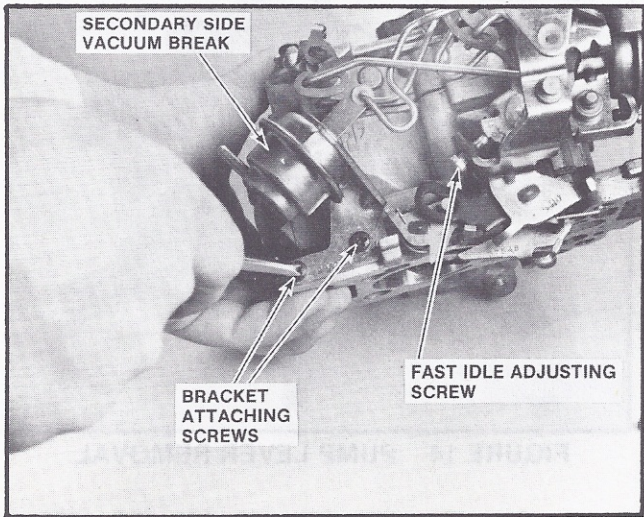

FIGURE 16 VACUUM BREAK REMOVAL - V6
break diaphragm plunger and remove bracket assembly from float bowl. On V6 and L-6 models, rotate vacuum break and bracket assembly to disengage rods from vacuum break and air valve levers. It is not necessary to remove the vacuum break or air valve rods from the vacuum break plunger on V6 models unless replacement of the rods or vacuum break unit is necessary (Figure 16). If not removed previously, idle speed solenoid may be removed from bracket following procedure described above.
5. Where used, remove secondary side vacuum break bracket attaching screws from throttle body (Figure 16). Then, rotate bracket to remove vacuum break rod from vacuum break lever.